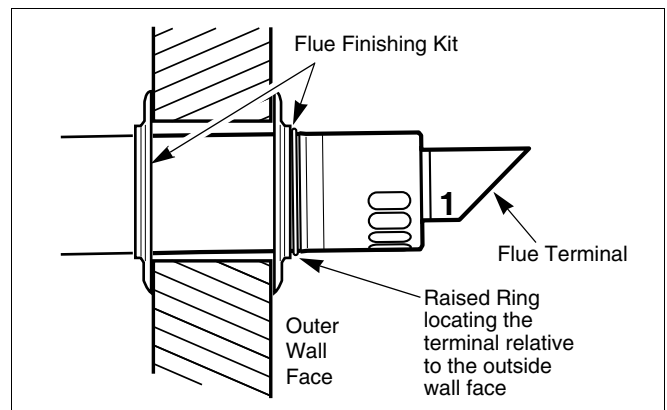

fig. 24 Flue terminal position
- Mark off the lengths shown onto the ducts and cut the length. The cuts must be square and free from burrs. Terminal assembly outer (air) duct - L-70 mm, inner (flue) duct - L-50 mm. The measurement is made from the ridge at the terminal indicating the outer face of the wall. Refer to figure 24. Extension air duct - L-70 mm, flue duct - L-50 mm. The measurement is from the formed end.
- Assemble flue system completely. Push the ducts fully together. The slope of the terminal outlet must be face downwards (see fig. 24, item 1). The assembly will be made easier if a solvent free grease is lightly applied to the male end of the ducts.